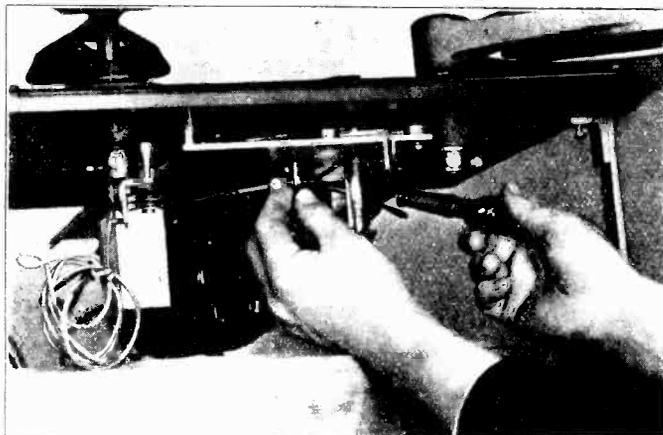

Figure 8 — Adjusting Cable Tension Screw
- (e) *Incorrect Adjustment of Cable Tension Screw*—The cable tension screw 19, Figure 2, should be so adjusted that the needle will lower smoothly onto the record without dropping. When this adjustment is obtained, the cable will be slightly loose when the needle is lowered onto a record. Loosen the lock nuts, turn the screw to the right or left as required (see Figure 8), and retighten the lock nut. Check the adjustment to make sure the needle clears the record on the return of the tone arm. The needle should rise $\frac{1}{8}$ " from the record before any horizontal motion takes place.